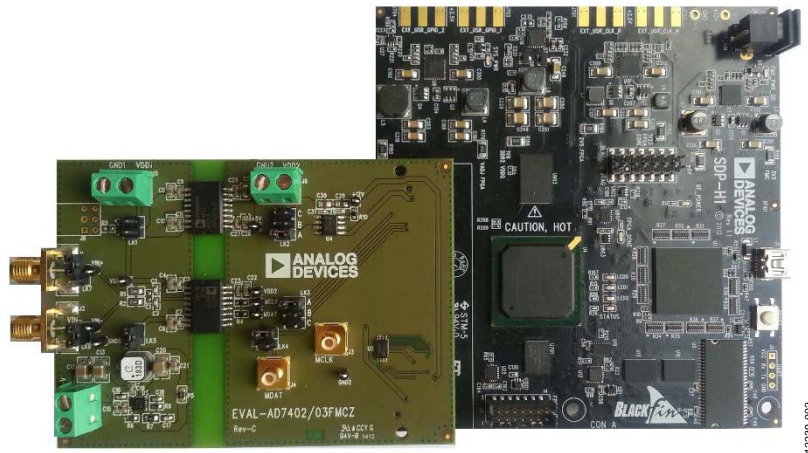

Figure 2. EVAL-AD7403FMCZ Evaluation Board (Left) Connected to the EVAL-SDP-CH1Z Board (Right)
3. Connect the EVAL-SDP-CH1Z board to the evaluation board as shown in Figure 2.
The EVAL-AD7403FMCZ connects to the EVAL-SDP-CH1Z system demonstration platform. The EVAL-SDP-CH1Z board is the controller board, which is the communication link between the PC and the main evaluation board. Figure 2 shows a photograph of the connections between the EVAL-AD7403FMCZ daughter board and the EVAL-SDP-CH1Z board.